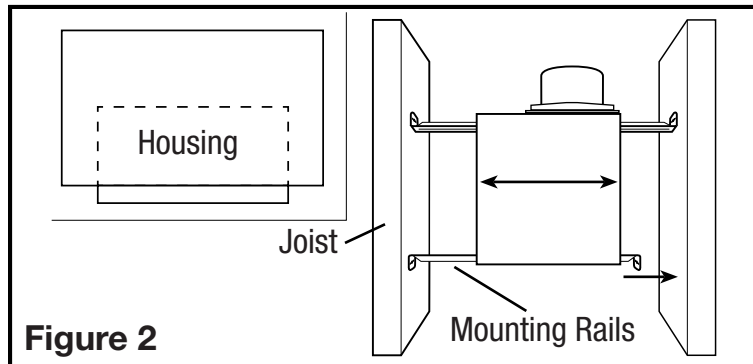
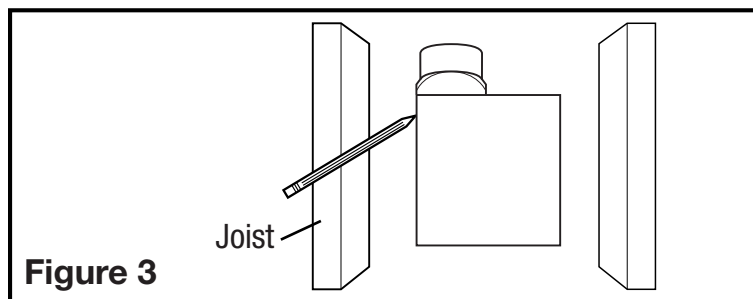

Figure 2
Figure 3
- Install the rails into the mounting channel on the housing. Center the mounting channel in the slots on the housing, then from inside the housing tighten the mounting channel screws so the channel is securely in place. Position the housing next to the joist. Line up housing so that it will be flush with the finished ceiling. Secure the ends of the rails with screws or nails (not included) to the joists and slide the housing into the final position (Figure 2).
- Set housing in position between the joist and trace an outline onto the ceiling material (Figure 3). Set housing aside and cut opening, being careful not to cut or damage any electrical or other hidden utilities. Install the rails into the mounting channel on the housing. Center the mounting channel in the slots on the housing, then from inside the housing tighten the mounting channel screws so the channel is securely in place. Position the housing in the previously cut hole so that it is flush with the finished ceiling. Secure the ends of the rails to the joists (Figure 2).